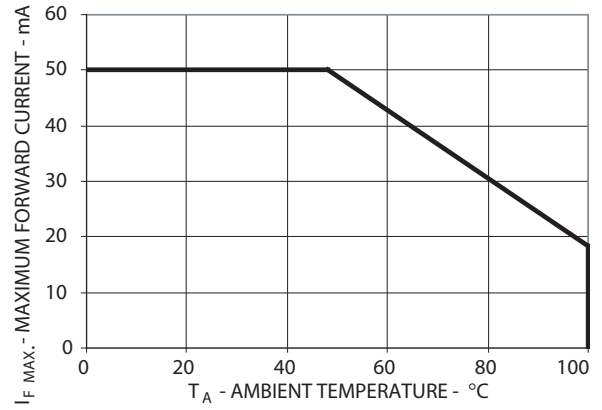

Figure 2. Maximum Forward Current vs Ambient Temperature
- Derate linearly as shown in Figure 2 and Figure 8.